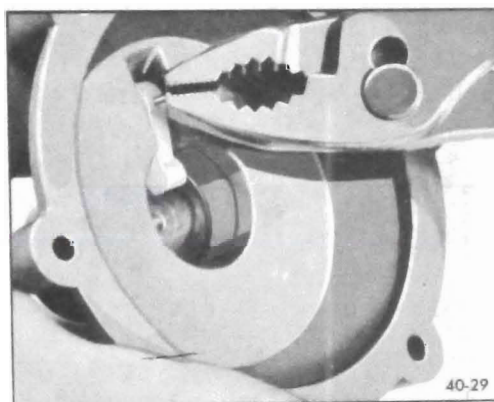

Figure 40-35 - Removing Rocker Arm Pin
6. If necessary, remove rocker and swivel arms. Grip pin with pliers and remove pin. See Figure 40-35.